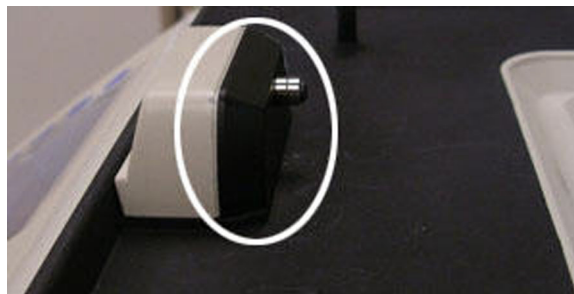

Figure 108. Optical module locking latch.
5. Reassemble the reaction module with the lid open by replacing the locking latch and securing it with the large screws. Figure 108 shows the locking latch in place.